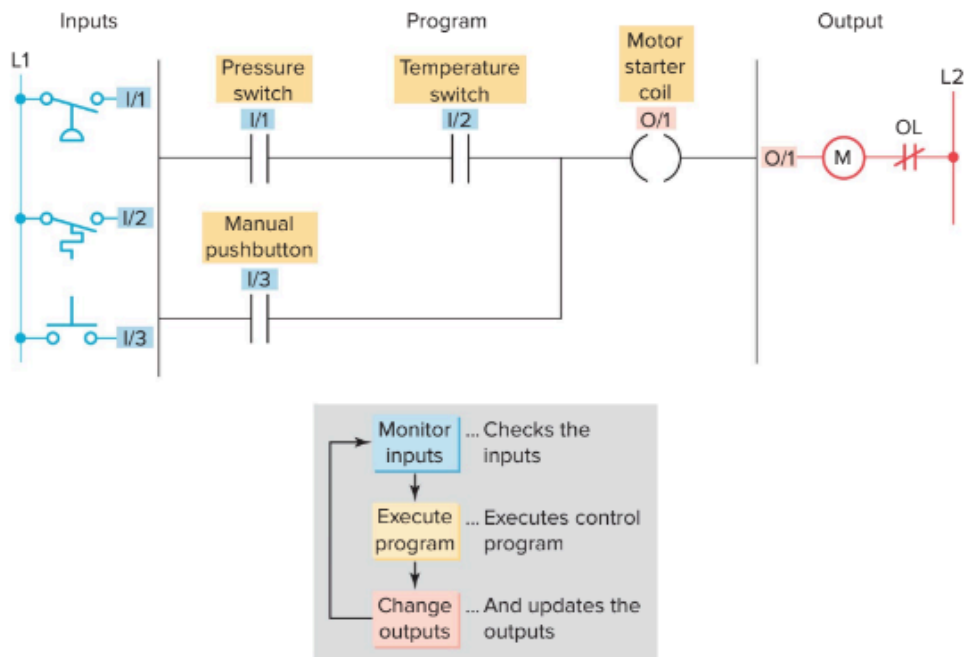

Figure 1-3
- The motor starter coil (M) is activated when both the **pressure** and **temperature switches** are closed, or when the **manual pushbutton** is pressed. This is done using physical relays and wiring.
- A typical ladder logic program for this process is shown in figure 1-3.